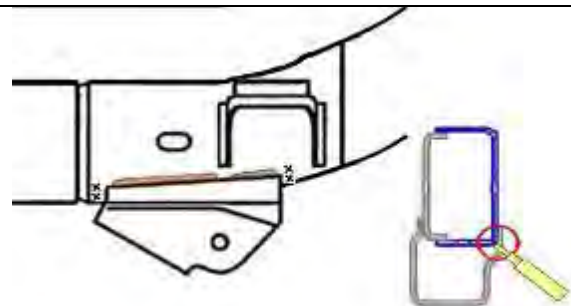

Figure 3 – Step 4 Hammering Locations
4. Using a 3/16” flat punch and a 12-16 oz. hammer, hammer on the locations identified with an “X” in Figure 3.